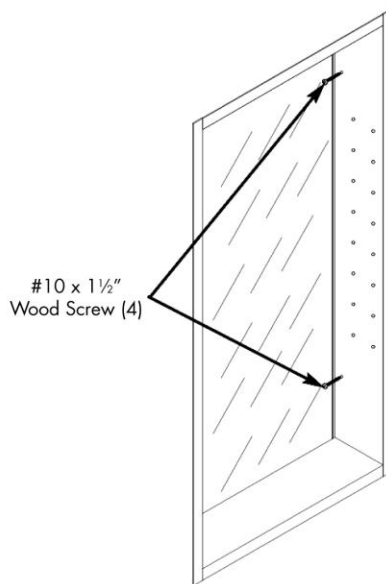

FIG 6
6. Insert four (4) #10 x 1 1/2" wood screws into four locations provided for recessed installation (Fig 6). Be careful not to overtighten. Make sure cabinet is centered in rough opening.